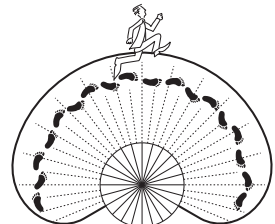

Figure 8
3. Walk through the coverage area where you are when the lights turn on. Also, the red LED behind the motion sensor lens will flash several times when motion is detected (see Figure 8).